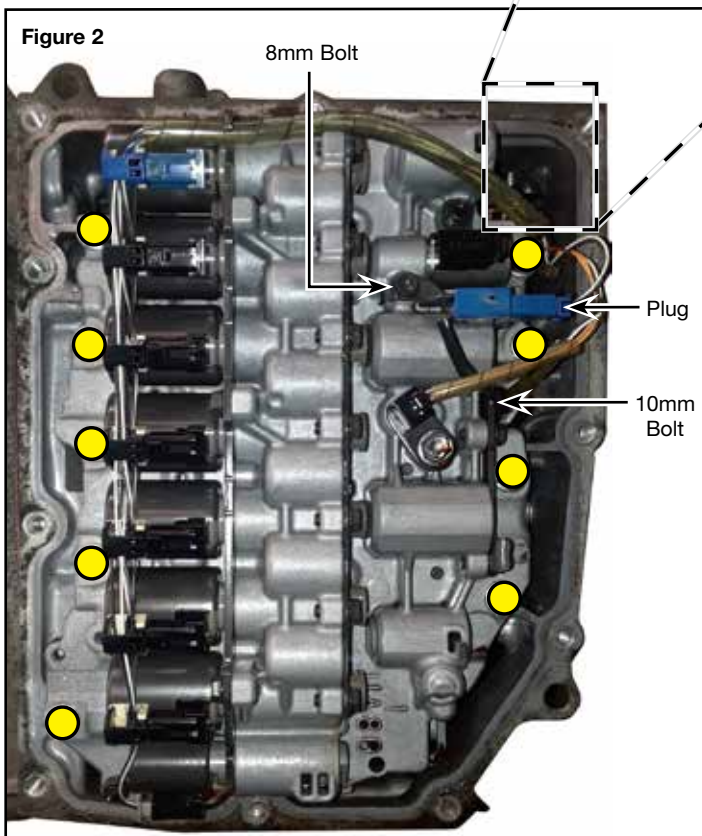

Figure 2
The UA80 is paired with V-6 applications. The UB80 is paired with 4 cylinder applications. Refer to **Figure 1** for Clutch and Brake application diagnostic information. **Figure 2** identifies solenoid types and ohm values for solenoid fault identification. **Figure 3** also shows solenoid applications to help track down a missing gear or upshift/downshift malfunctions.
Solenoid Info & ohm Values Figure 2
b. Disconnect plug (**Figure 2**).
c. Remove nine 10mm bolts, (yellow circles, **Figure 2**).
d. Remove 10mm bolt (**Figure 2**), then remove NT speed sensor.
e. Remove 8mm bolt (**Figure 2**).
- Assemble valve body onto the case and be sure to index the manual valve back into the manual linkage, and install the valve body-to-case bolts (Figure 2). After all of the valve body bolts are snugged down, torque them to 8 ft-lb.